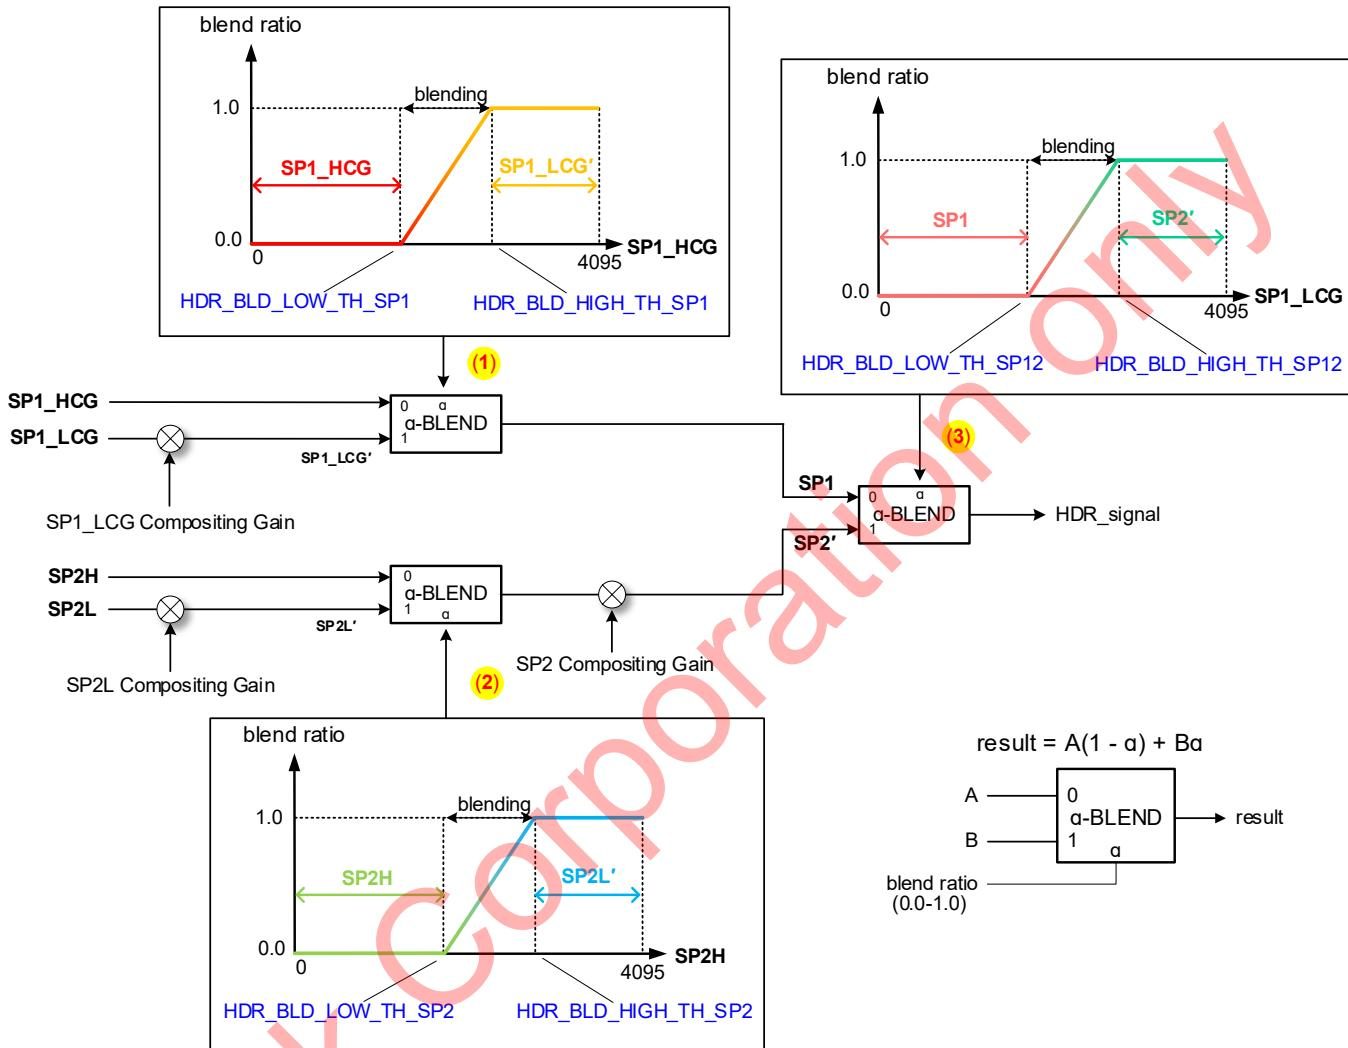

Figure 5-3 HDR Imaging Signal Process Flow
"Figure 5-3" illustrates the signal processing, in which the sensor sequentially combines the signals from each line.
This section explains the details of HDR imaging in order, (1), (2) and (3), as illustrated in "Figure 5-3." HDR imaging consists of two processes: "Blend Ratio Calculation" and "Alpha-Blending."
- The signal and register names in HDR imaging processes (1) to (3) in "**Figure 5-3**"
Alternatively, when using the Maximum Pixel Value Switching Method, set the aforementioned registers to 1. The user can individually select these methods at the three positions in HDR processing as illustrated in "**Figure 5-3.**"